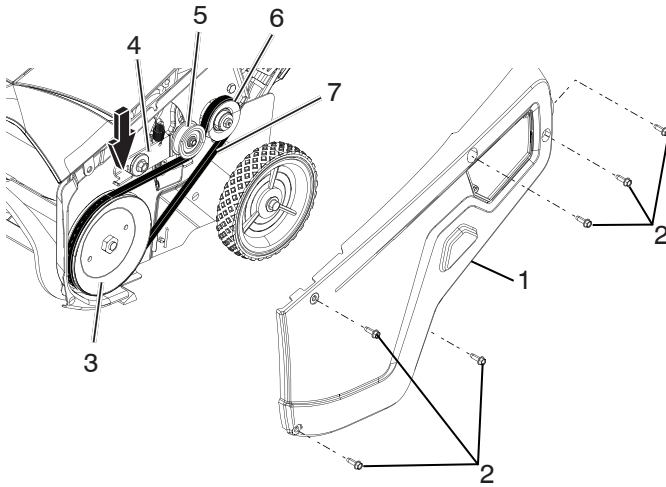

Figure 31
1. Remove the drive side cover by removing the six screws as shown in (Figure 31).
2. Press down on front of idler arm to release the belt tension (Figure 31).
3. Remove the drive belt from the drive pulley (Figure 31).